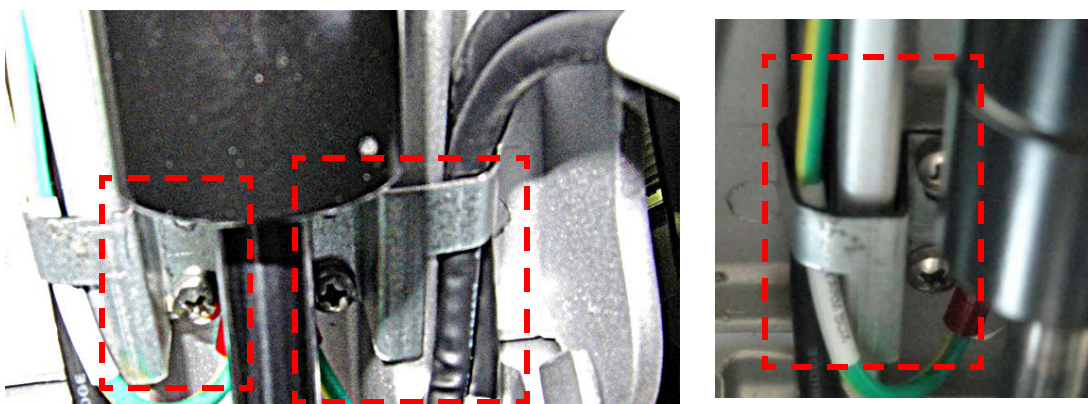

Figure 8-85 Two Cable Brackets On Either Side of the Gas Spring
- 8.) Remove two cable bracket holders - two securing screws in each bracket - one bracket on either side of the gas spring - see Figure 8-85 below.
- 2.) Return the two cable bracket holders - two securing screws in each bracket - one bracket on either side of the gas spring - see Figure 8-85 on page 8-68.